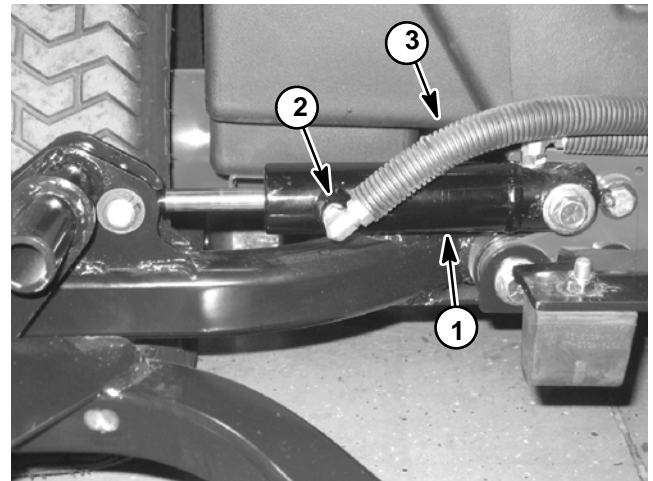

Figure 56
3. Thoroughly clean the area around the end of the hydraulic hose at the rod end of the lift cylinder. Disconnect the hydraulic hose from the lift cylinder rod end fitting (Fig. 56).